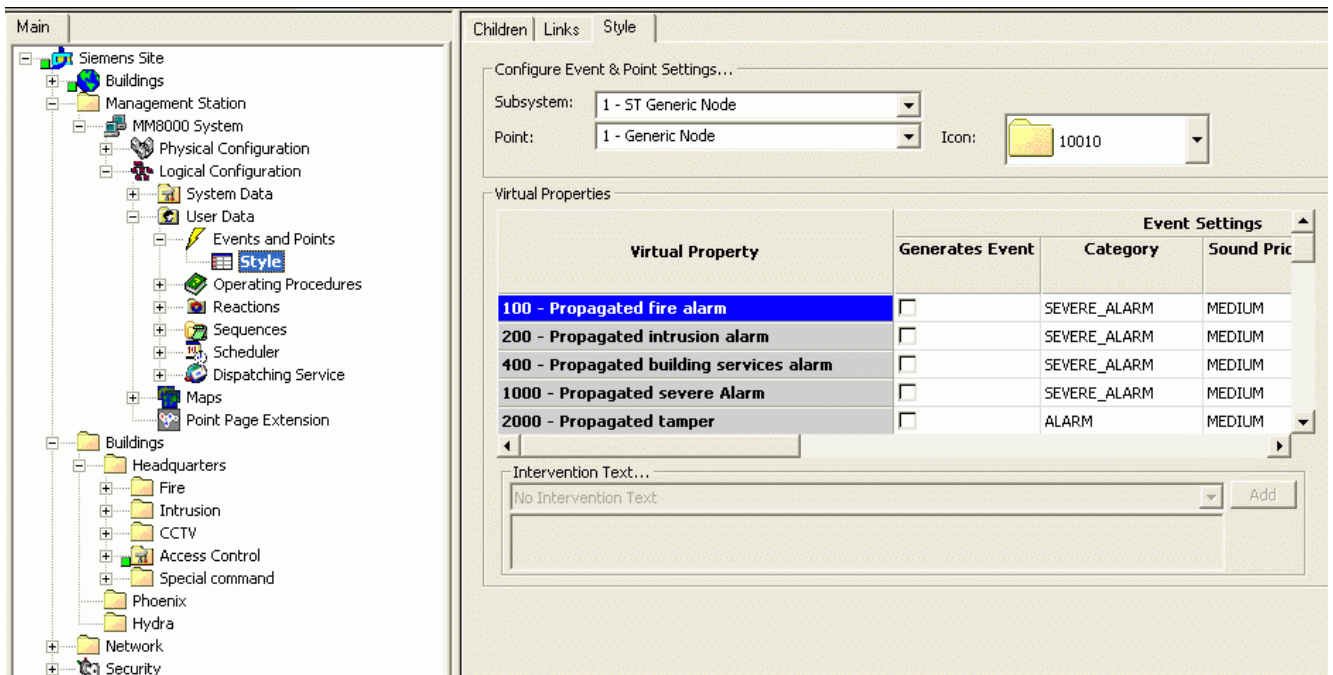

Fig 14 Customising event settings of SiPass Doors
- In the **Event and OP Extensor** tab of each individual point, customise the options of an event (e.g.: modifying the event settings for the properties as in Fig 14).
- In the **Style** tab of **MM8000 system - Logical configuration - User Data - Event and Points - Style**, customise the options of a class of points (e.g.: modifying the event settings for the properties of Door points as in Fig 14).